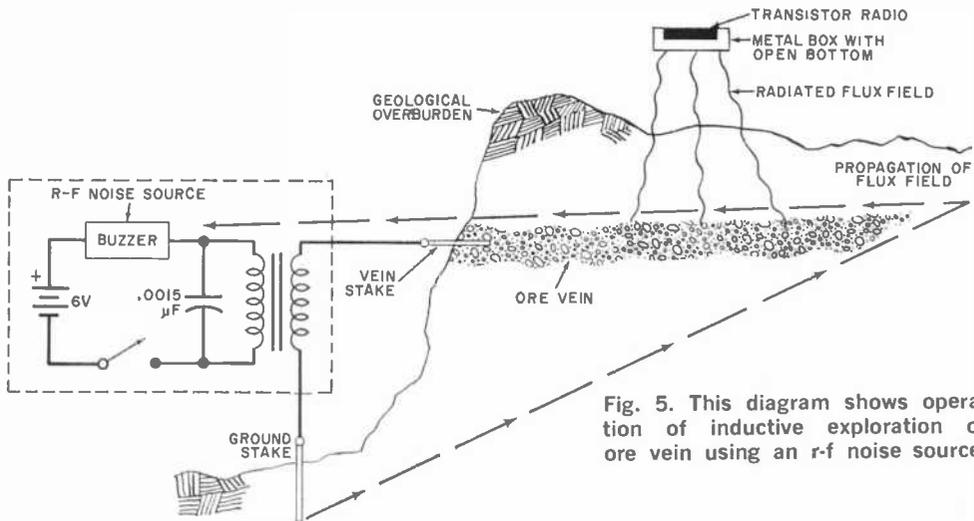

Fig. 5. This diagram shows operation of inductive exploration of ore vein using an r-f noise source.
**Going Professional.** The professional treasure hunter's objectives are not restricted to traditional "treasures." He explores ore bodies, knows how to deal with decoys, and has a fair knowledge of geophysical techniques and geology. One basic method of investigating noble metals, including gold and silver, is shown in Fig. 5. Once a vein's outcrop is determined by examination, use is made of the vein's direct or semiconductance by feeding an r-f noise into it. A suitable noise generator can be made of little else than a power source, buzzer, capacitor, and coupling transformer as shown.